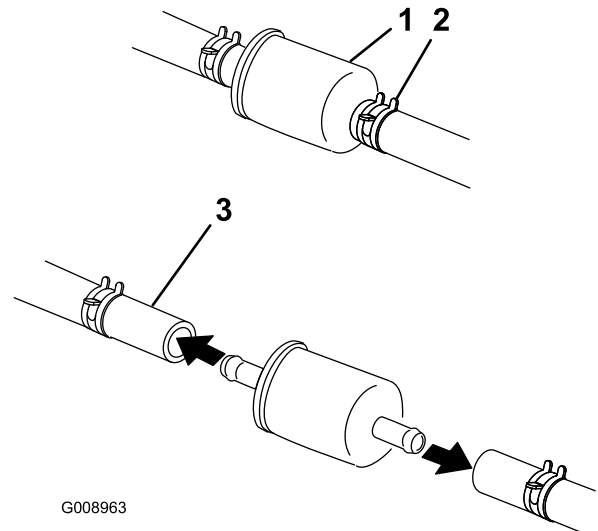

Figure 45
3. Allow the machine to cool down (Figure 45).
4. Squeeze the ends of the hose clamps together and slide them away from the filter (Figure 45).
6. Install a new filter and move the hose clamps close to the filter (Figure 45).